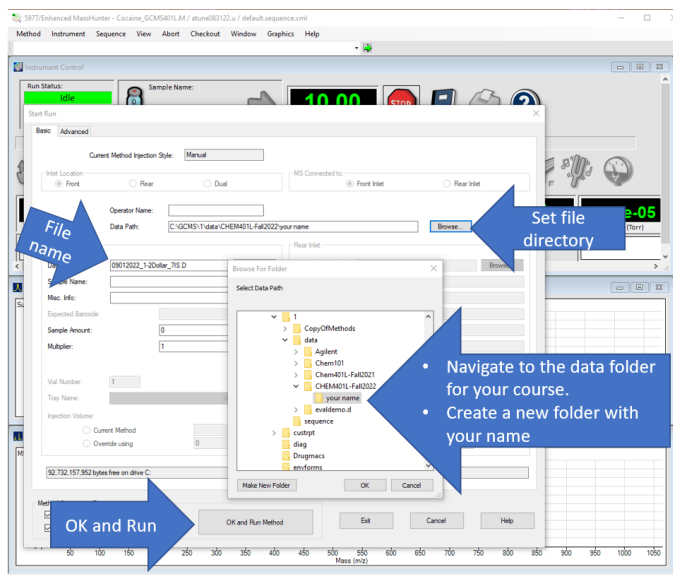

Figure 6.11.4.2.2: Infographic to show how to create a new folder to store your GCMS data. (CC-BY-SA; Kathryn Haas for Duke Chem.)
Figure 6.11.4.2.1: Infographic for how to open the GCMS MassHunter software, run a method, and prepare the instrument to inject a sample. (CC-BY-SA; Kathryn Haas for Duke Chem.)
- Wait until the "GC Acquisition" window opens and prompts you with "**Waiting for Remote Start**" (see Figure 6.11.4.2.3, left). The inject your sample into the front inlet and immediately press the Start button on the front of the instrument.
Figure 6.11.4.2.3: How to initiate a run after injection of sample in the inlet. Use the button at the front of the instrument to Start the run. Do NOT override the solvent delay. (CC-BY-SA; Kathryn Haas for Duke Chem.)